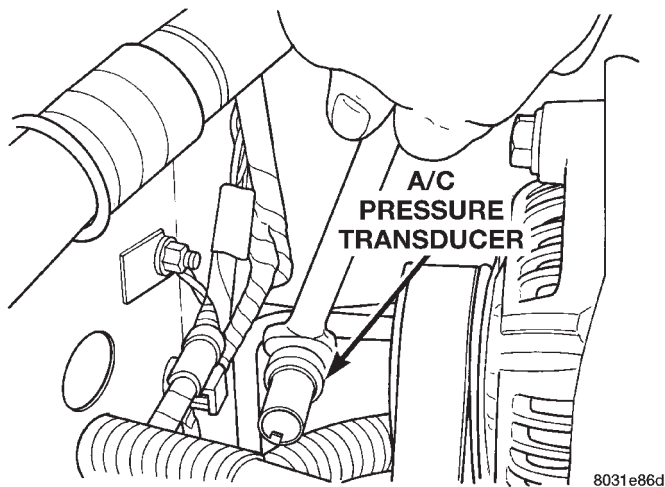

Fig. 11 A/C Pressure Transducer Removal
- (1) Disconnect the wire connector at the pressure transducer.
- (2) Using an open end wrench, remove the transducer from the liquid line (Fig. 11).